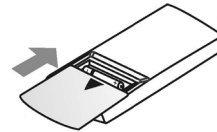

Fig.3
- Put back the cover according to the direction indicated by the arrowhead (Fig.3)
After scanning the QR code, enter the activation code “6364d” (point 1, Fig.3) and click on activate (point 2, Fig.3)